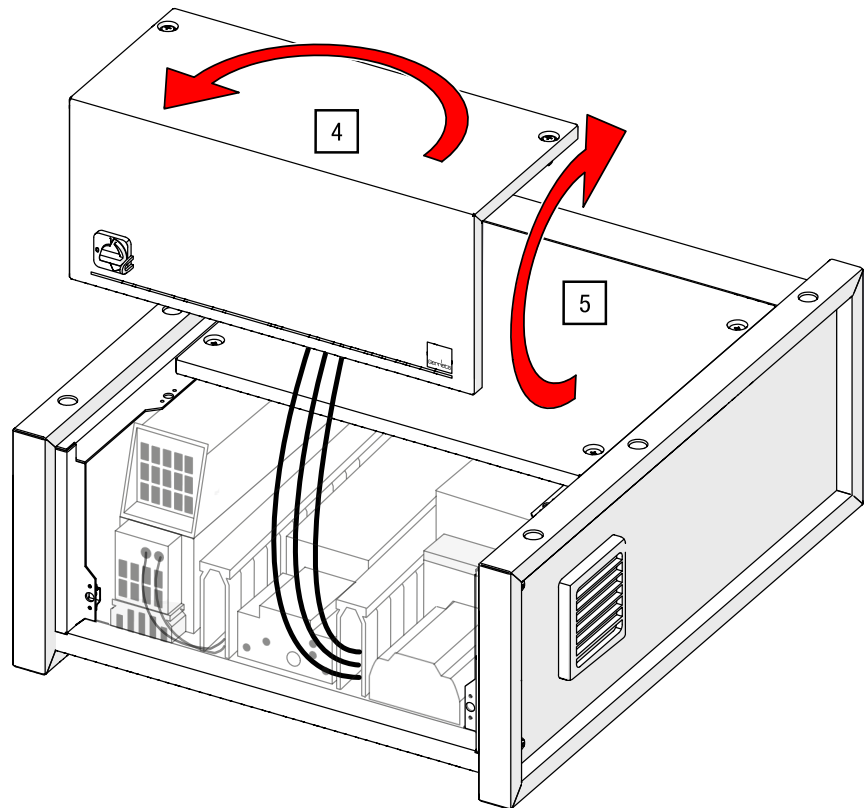
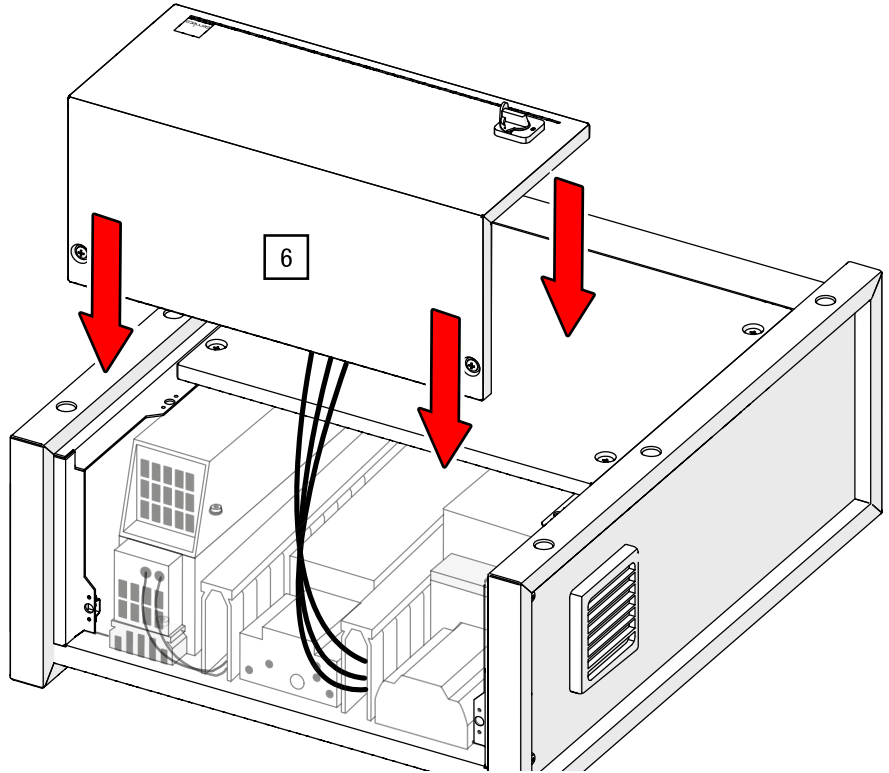

Fig. 90: Rotate loosened control terminal (control unit model may vary)
Fig. 91: Insert terminal (control unit model may vary)
4. and 5. Rotate the control panel 180° and then tilt it 90° so that it matches the orientation from Fig. 91 (see Fig. 90).
6. Place the control panel back onto the control unit housing (see Fig. 91).